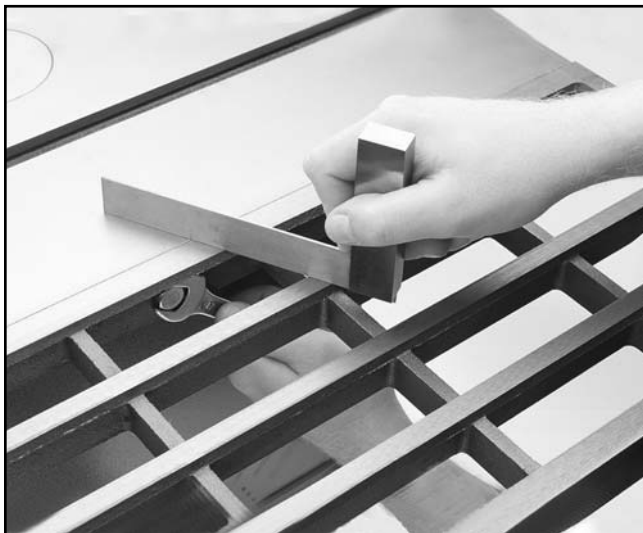

Figure 21. Checking table to wing alignment.
3. Raise or lower the rear of the extension wing until the middle of the wing is flush with the table top and tighten the middle bolt as shown in **Figure 21**.